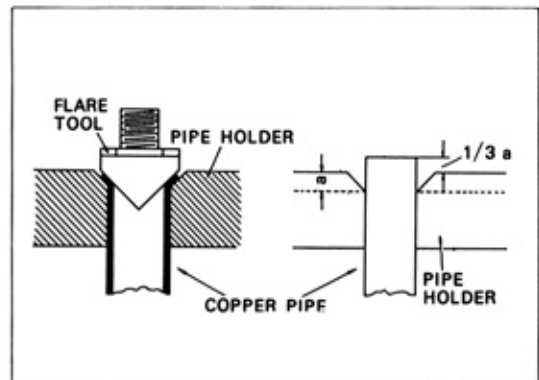

Fig. 46
2. The top of the tube should stick out of the pipe holder by the dimension shown in Fig. 46.